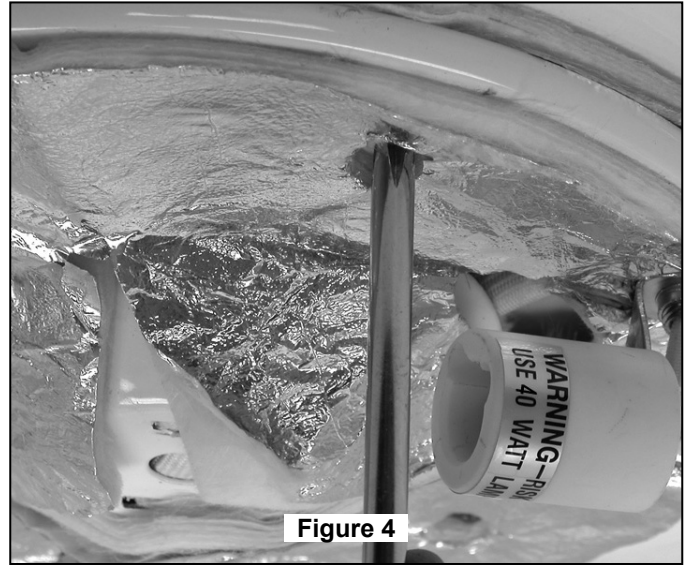

Figure 4
8. Slide the Motor Coupling Cover down until it touches the top of the Housing. (Figure 4)
9. Install three Candelabra Bulbs (included - 25 watts max) in each of the sockets on the Upper Housing Assembly. (Figure 4)
4. Securely attach Downlight Socket Plate Assembly to the Adapter Plate by tightening three screws with spring washers (5/32-32 x 8 mm) provided with the fan. (Figure 4)
Be sure to line up the curved slotted holes located on both Lower Housing Support Plates. (Figures 4 & 5) Purpose of these holes are for the convenience of removing and re-installing the blades without dis-assembling the Adapter Plate and Downlight Socket Plate Assembly.